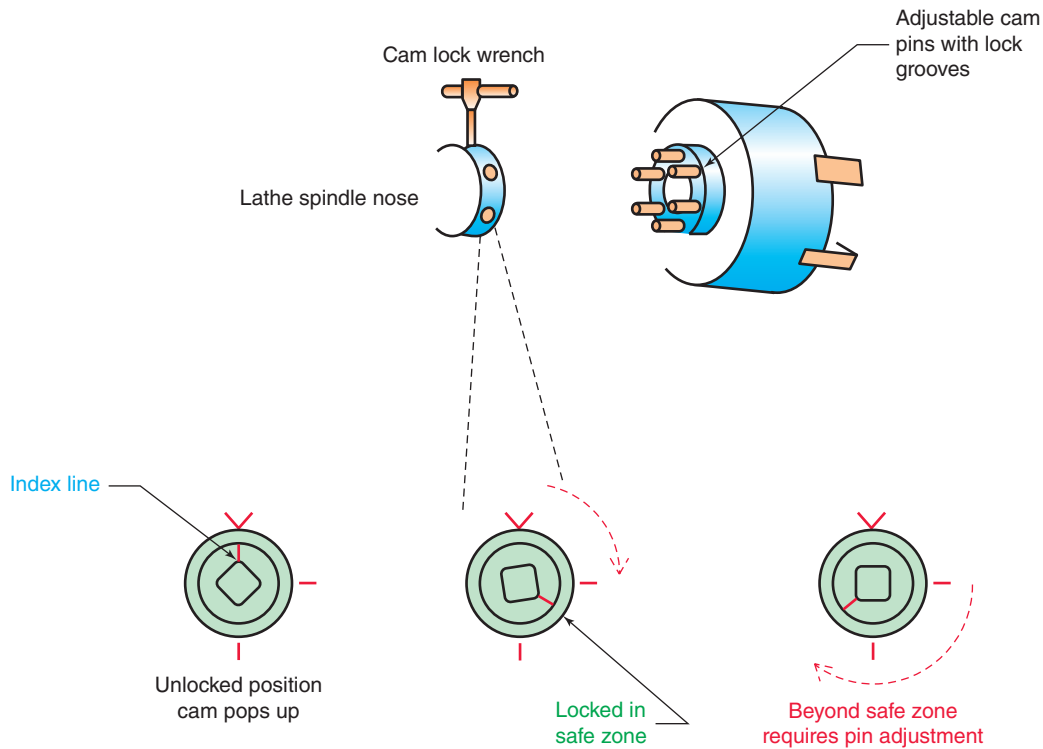

Figure 11-93 Trade Tip—The index line shows the lock status.
(Fig. 11-91) that are firmly gripped by rotating cams in the spindle nose of the lathe (Fig. 11-92). Correctly locked, the chuck holds equally well for forward and reverse spindle rotation (Fig. 11-93).
3. Using a special square or hexagonal wrench, turn all locks counterclockwise to the unlock position, as shown in Fig. 11-93.
On the final tighten, read the lock index lines per Fig. 11-93. With normal use or especially after a serious crash, the cam pins can become out of adjustment for a safe lockup. If the index lies within the safe zone it's OK to proceed. If, with the cam locked, any ending tight but beyond (shown on the right), then remove the chuck and adjust the cam pins as needed by removing the set screw, then turning them in one turn. Note that the groove will always be toward the inner circle.
Reading the Cam Lock Indicators When tightening a cam lock device, there are indicator lines on the lathe spindle nose that show the lock position. They surround the hole where the cam lock wrench is inserted in the lathe (Fig. 11-93). There are three indicator lines:
If the lock tightens beyond the safe line, the chuck pins are incorrectly adjusted. Do not use a chuck if the cam lines show as on the right in Fig. 11-93. Ask your instructor for help in resetting the pins.